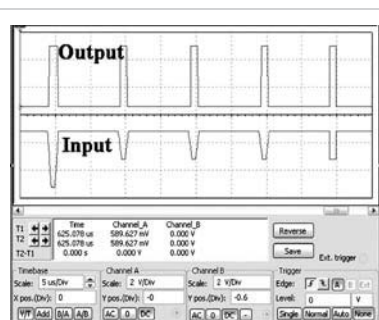

Figure 6 Positive output pulses are nearly the same width as negative input pulses.
1). Resistors R_3 and R_4 set the comparator's threshold voltage, but it depends on the value of the negative supply's voltage. You can calculate the threshold voltage using the equation $V_{T-} = [V_-(R_2 + R_4)] / R_4$, where V_- is the negative power-supply voltage. Figure 6 shows the circuit's waveforms.